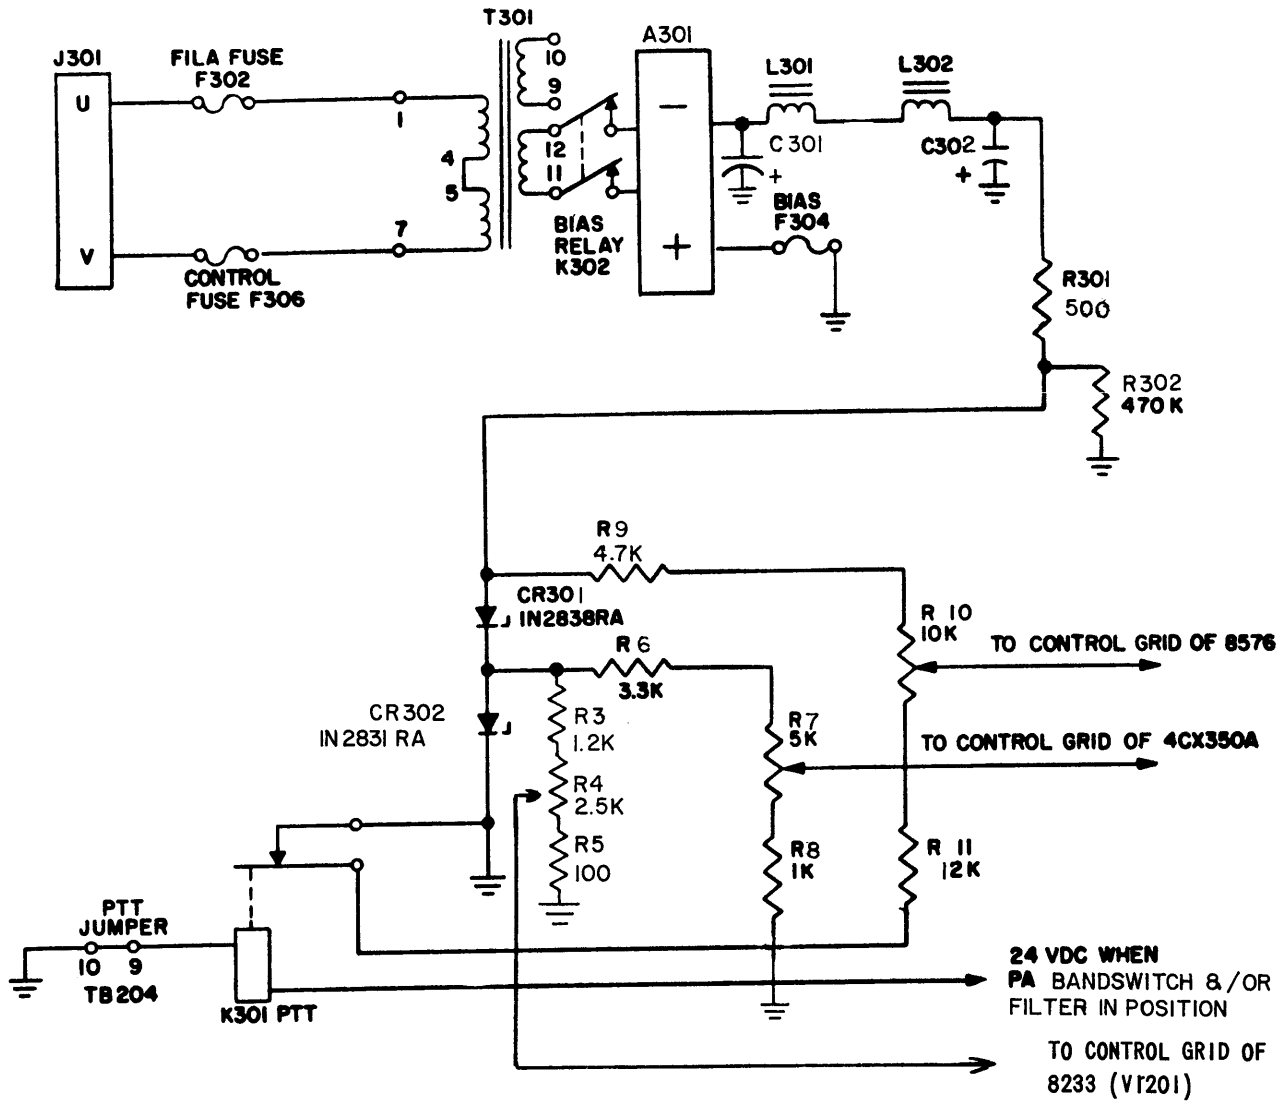

FIGURE 4-4. SIMPLIFIED BIAS CONTROL
b. BIAS Voltage (Refer to figure 4-4)